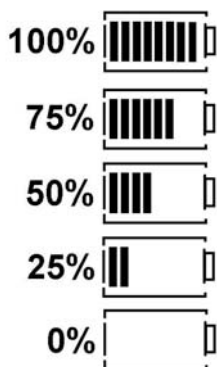

Fig. 6: Battery charge
- 7 TRMS symbol (AC)
The current charge of the batteries is always indicated on the LCD (fig. 5, pos. 5). The number of bars shows the charge of the batteries in percent (fig. 6).